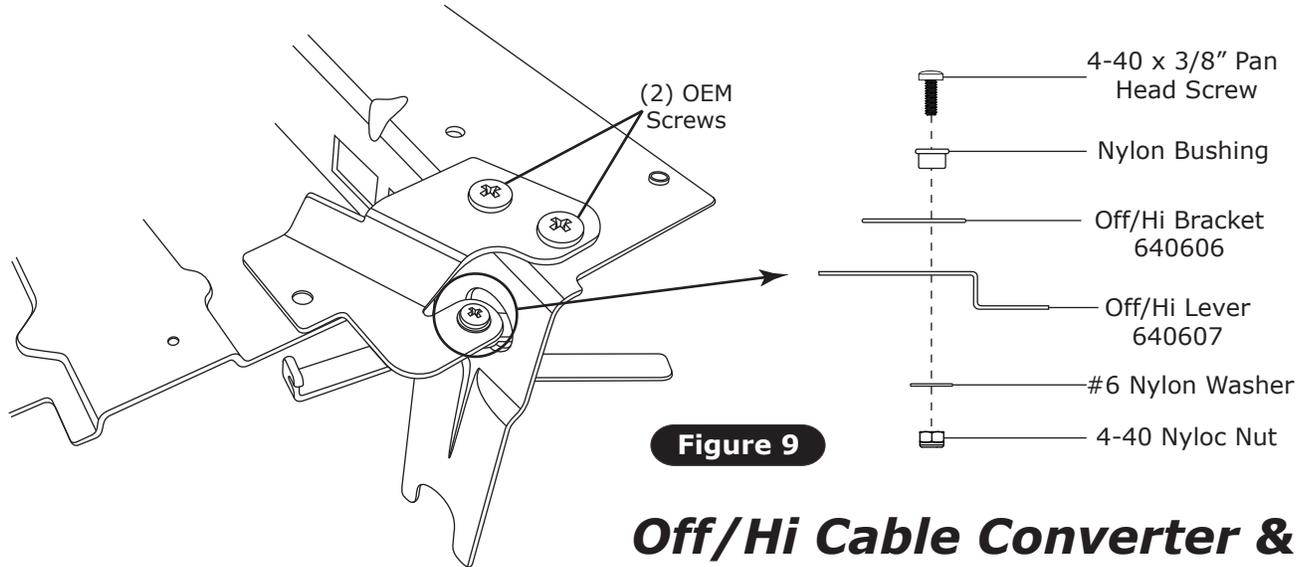

Figure 9
1. Install Off/Hi lever onto Off/Hi bracket as shown in Figure 9, below.
2. Install Off/Hi bracket onto OEM control panel using OEM screws as shown in Figure 9, below.